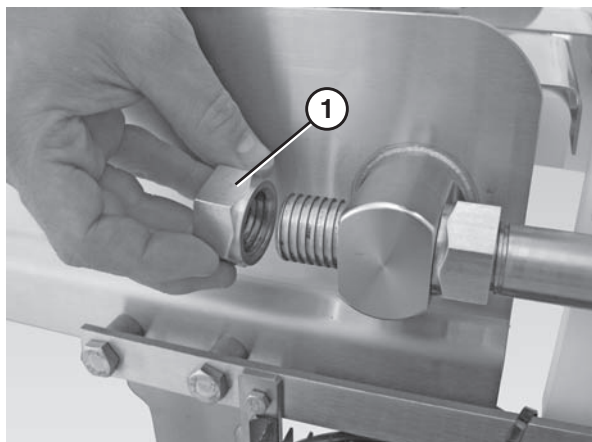

Figure 69
1. Remove the back nuts (**Figure 69, item 1**) on both discharge nose bar shafts.